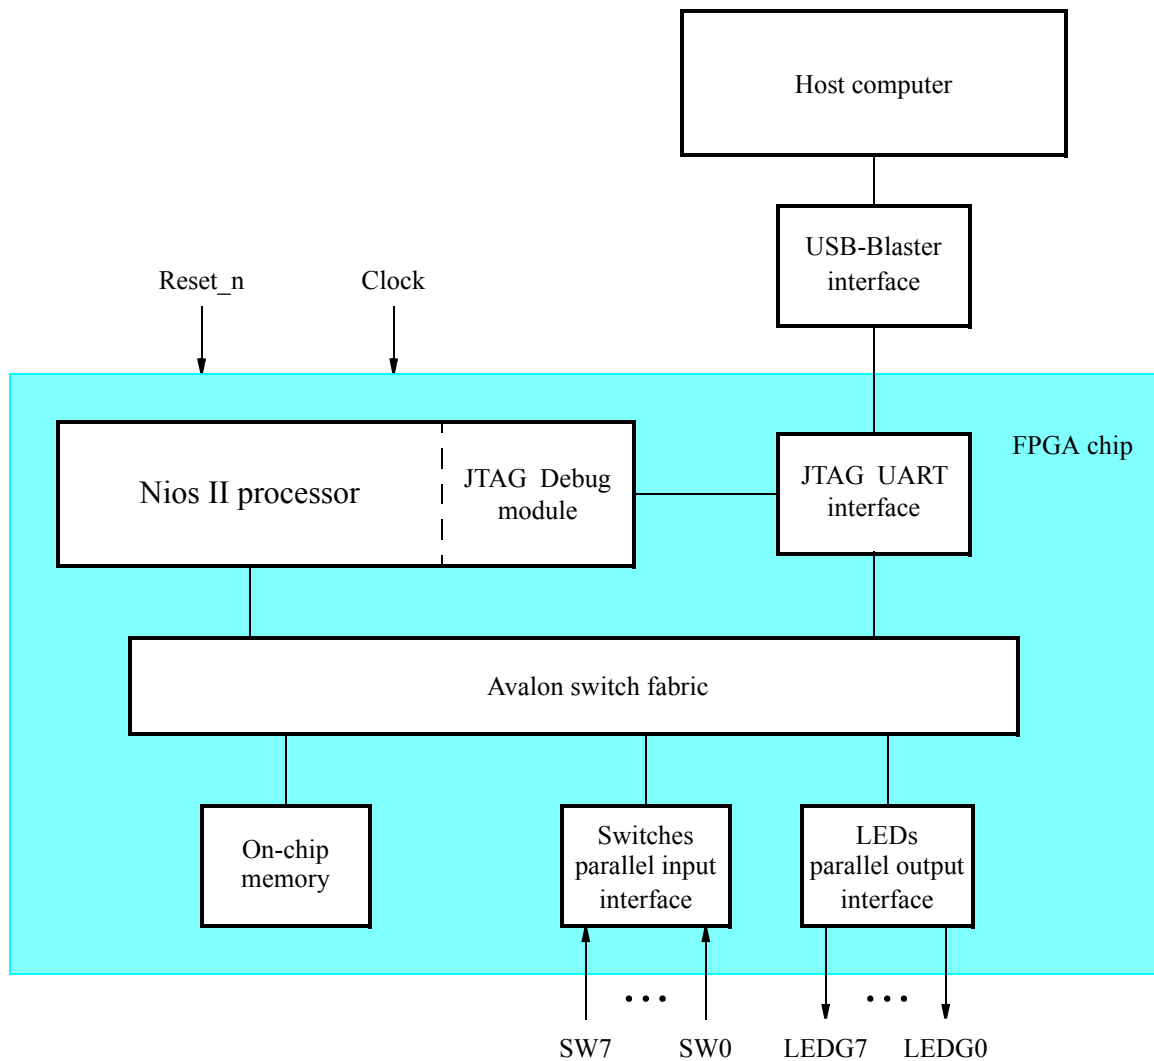

Figure 2. A simple example of a Nios II system.
We will use a simple hardware system that is shown in Figure 2. It includes the Altera Nios[®] II embedded processor, which is a *soft processor* module defined as code in a hardware-description language. A Nios II module can be included as part of a larger system, and then that system can be implemented in an Altera FPGA chip by using the Quartus II software.
As shown in Figure 2, the Nios II processor is connected to the memory and I/O interfaces by means of an interconnection network called the *Avalon switch fabric*. This interconnection network is automatically generated by the Qsys tool.
Our example system in Figure 2 is intended to realize a trivial task. Eight slider switches on the DE2-115 board, SW7–0, are used to turn on or off the eight green LEDs, LEDG7–0. To achieve the desired operation, the eight-bit pattern corresponding to the state of the switches has to be sent to the output port to activate the LEDs. This will be done by having the Nios II processor execute a program stored in the on-chip memory. Continuous operation is required, such that as the switches are toggled the lights change accordingly.
In the next section we will use the Qsys tool to design the hardware depicted in Figure 2. After assigning the FPGA pins to realize the connections between the parallel interfaces and the switches and LEDs on the DE2-115 board, we will compile the designed system. Finally, we will use the software tool called the *Altera Monitor Program* to download the designed circuit into the FPGA device, and download and execute a Nios II program that performs the desired task.
The Qsys tool is used in conjunction with the Quartus II CAD software. It allows the user to easily create a system based on the Nios II processor, by simply selecting the desired functional units and specifying their parameters. To implement the system in Figure 2, we have to instantiate the following functional units:
- Note that the Qsys tool automatically chooses names for the various components. The names are not necessarily descriptive enough to be easily associated with the target design, but they can be changed. In Figure 2, we use the names Switches and LEDs for the parallel input and output interfaces, respectively. These names can be used in the implemented system. Right-click on the `pio_0` name and then select **Rename**. Change the name to `switches`. Similarly, change `pio_1` to `LEDs`. Figure 16 shows the system with name changes that we made for all components.